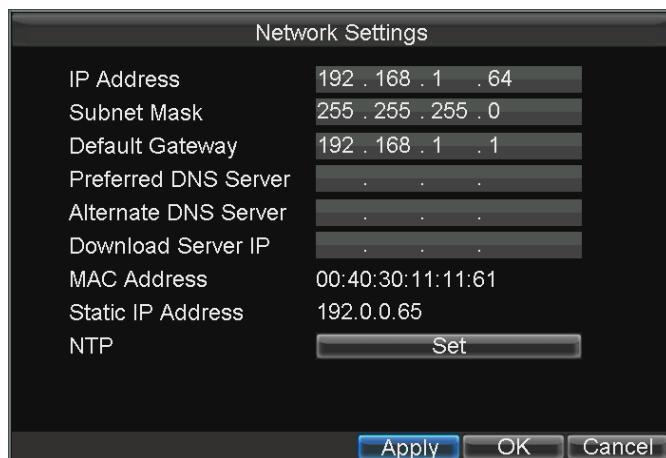

Figure 7.1 Network Settings Interface
1. Enter the Network Settings interface, as shown in Figure 7.1.